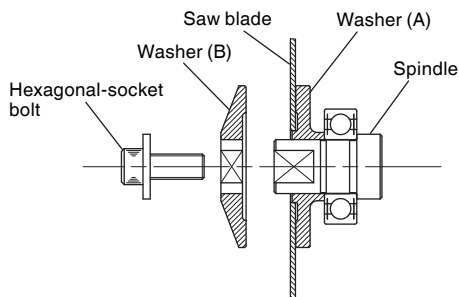

Fig. 8
- (1) Thoroughly remove any sawdust which has accumulated on the spindle, bolt and washers.
- (2) For saw blades with hole diameters of 20 mm, as shown in Fig. 8, the side of Washer (A) with a projected center the same diameter as the inner diameter of the saw blade and the concave side of Washer (B) must be fitted to the saw blade sides.
- (3) To assure proper rotation direction of the saw blade, the arrow direction on the saw blade must coincide with the arrow direction on the saw cover.
- (4) Using the fingers, tighten the hexagonal-socket bolt retaining the saw blade as much as possible. Then depress the lock lever, lock the spindle, and thoroughly tighten the hexagonal-socket bolt.